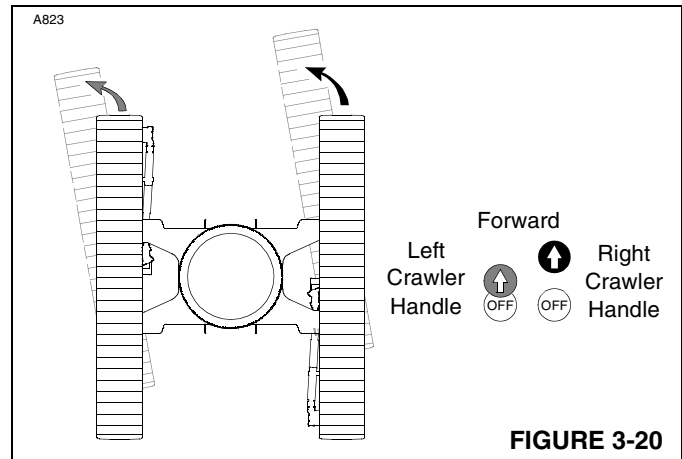
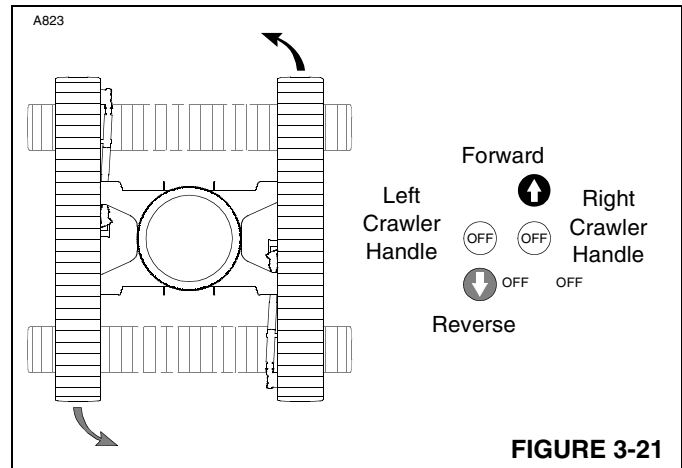

FIGURE 3-20
FIGURE 3-21
- Make gradual turns (Figure 3-20) or counter-rotate (Figure 3-21) whenever possible so both crawlers are always powered.
10. To make a GRADUAL LEFT TURN (Figure 3-20), move both crawler handles to front from off, but move right crawler handle farther to front than left crawler handle; right crawler will turn faster than left crawler.
12. To COUNTER-ROTATE LEFT (Figure 3-21), move right crawler handle to front from off and move left crawler handle to rear from off.